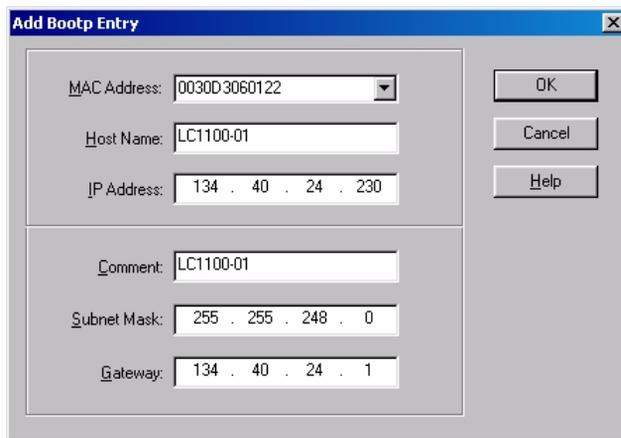

Figure 5 Add Bootp Entry - Enter your parameter
- 5 Select *Configure* -> *Add Entry* to configure the Bootp Manager (Figure 5). The drop down box "MAC address" lists all MAC addresses found. Select your MAC address. If no hardware address is found, select *Cancel* and repeat step 3 and step 4.